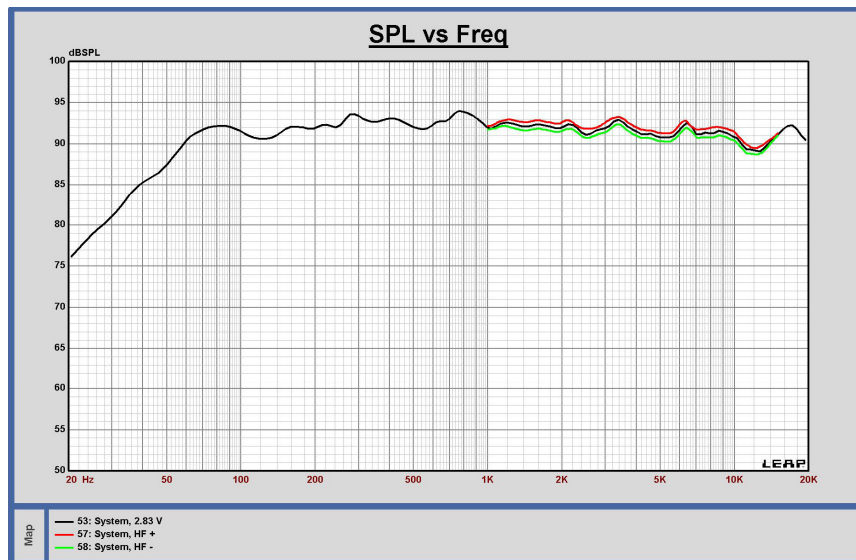

Figure 13 – Response changes due to HF Level adjustment 0.5 dB
**HF Level** - This switch adjusts the attenuation applied to the 476Mg by approximately 0.5 dB over the range of 1000 Hz to about 20000 Hz. The action is accomplished by trimming the main attenuation resistors. No additional parts are inserted in the signal path. It has no affect on the 045Be-1 output level. (Fig.13)